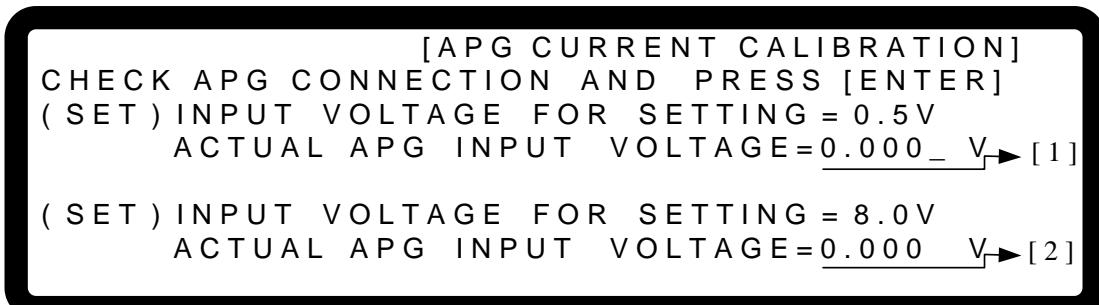

Figure 3-132
4. Input a 0.5V voltage signal on Pin 17. The cursor stops at position [1] as shown in Figure 3-132. Adjust the Power Supply to $0.5V \pm 0.2V$ and use DVM1 to measure the reading of the Power Supply. Input the voltage read by DVM 1 and press “**ENTER**” to confirm.
5. Press “**↓→**” again and input an 8.0V voltage signal on Pin 17. The cursor stops at position [2] as shown in Figure 3-132. Adjust the Power Supply to $8V \pm 0.2V$ and use DVM1 to measure the reading of the Power Supply. Input the voltage read by DVM1 to position [2] and press “**ENTER**” to confirm.